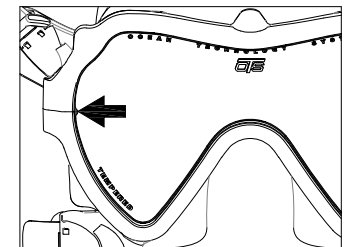

FIGURE 10
8. Inspect and verify that the skirt is between the lens and the frames along the entire perimeter of the lens. It is normal for the skirt near the unions of the upper and lower frames to bulge inward (Fig. 10).